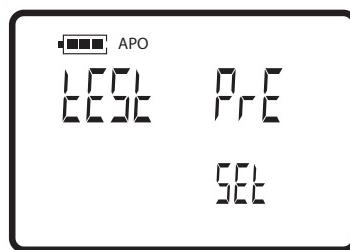

Figure 8
- 1) At Main Screen (FIG 1) press **TEST**. The **Test Pressure Set Screen** will appear (FIG. 8).